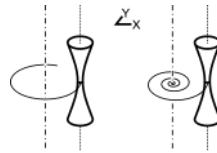

Figure 5.2: Ellipses and spirals
**Ellipses and spirals - 1st and 2nd axis** In order to create circles, ellipses and spirals InScript combines a sinusoidal motion of the X-galvanometer with a cosinusoidal motion of the Y-galvanometer. Figure 5.2 on page 80 illustrates the motion achievable with 2 axes. To generate the planar focus motions, 4 parameters are needed for the 2 axes. These are the number of revolutions performed, the radius, and the 2 phases of the involved galvanometer motions.